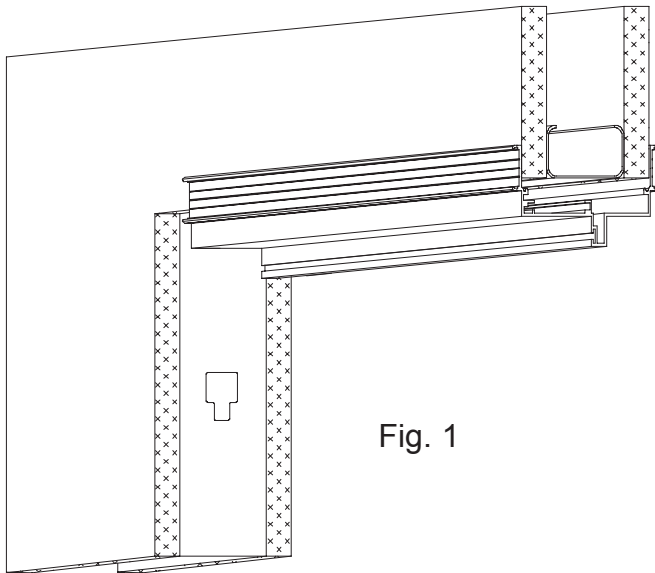

Fig. 1
4. Check opening for proper swing, then slip header over the wall. (Fig. 1)